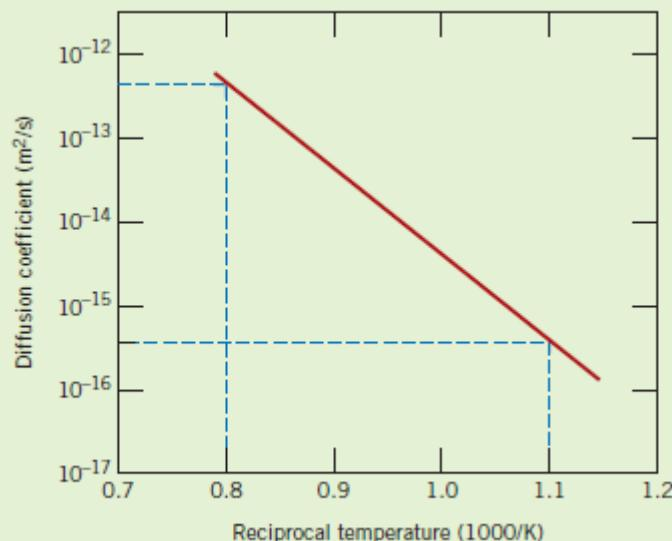

Figure 5.8 Plot of the logarithm of the diffusion coefficient versus the reciprocal of absolute temperature for the diffusion of copper in gold.
Thus, from Figure 5.8, at $1/T_1 = 0.8 \times 10^{-3} \text{ (K)}^{-1}$, $\log D_1 = -12.40$, while for $1/T_2 = 1.1 \times 10^{-3} \text{ (K)}^{-1}$, $\log D_2 = -15.45$, and the activation energy, as determined from the slope of the line segment in Figure 5.8, is
Now, rather than trying to make a graphical extrapolation to determine D_0 , a more accurate value is obtained analytically using Equation 5.9b, and a specific value of D (or $\log D$) and its corresponding T (or $1/T$) from Figure 5.8. Because we know that $\log D = -15.45$ at $1/T = 1.1 \times 10^{-3} \text{ (K)}^{-1}$, then